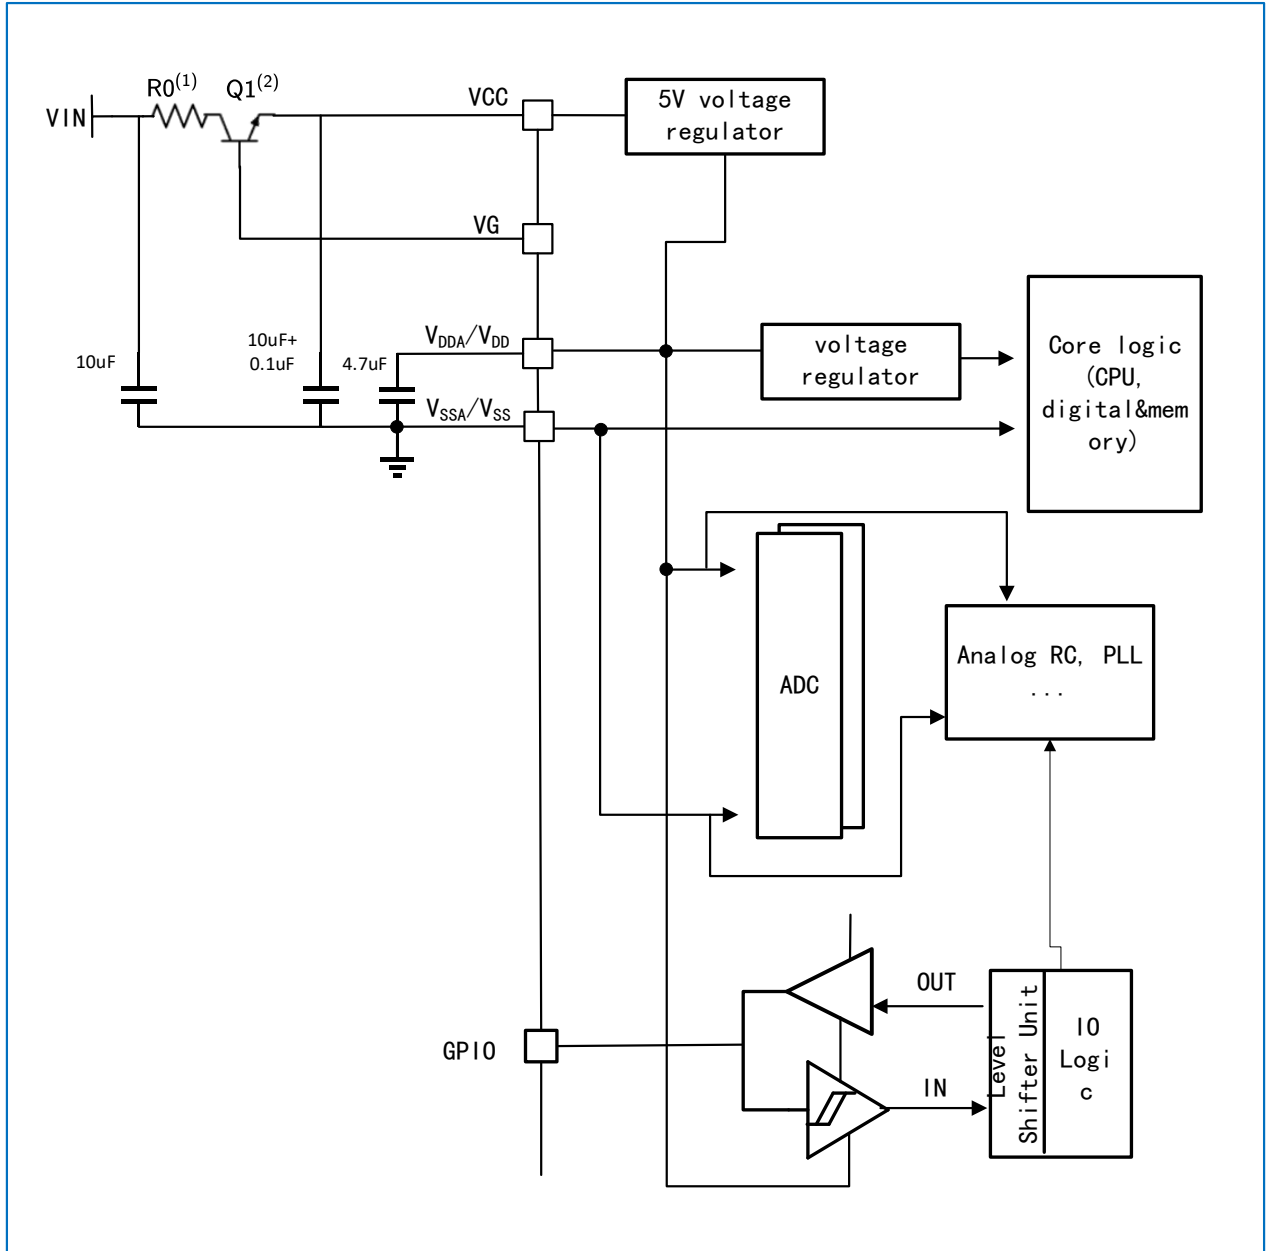

Figure 5-1 Power Diagram
- (1). When VIN is greater than 12V, the heat dissipation of Q1 can be optimized by adjusting the resistance of R0.
- (2). When  $V_{IN} \leq 12V$ , VIN and VCC can be directly short-circuited, and Q1 and R0 may not be required. When  $V_{IN} > 12V$ , it is recommended to retain Q1 to improve power stability.
- (3). When the power supply voltage is within 30V, the reference circuit in Figure 5-1 can be used. If the power supply voltage is above 30V, an additional 12V power supply is required to supply VCC.